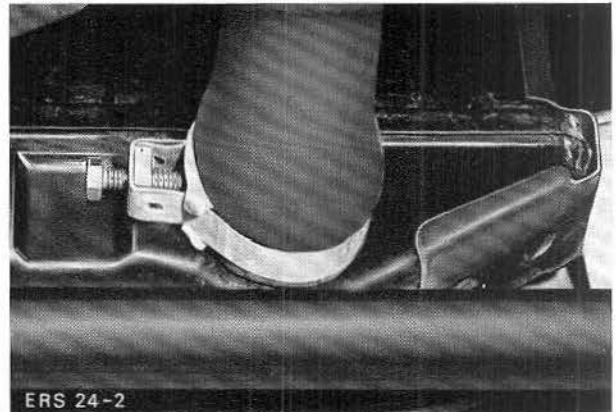

Fig. 64. Disconnect radiator hose from radiator.
1. Disconnect battery earth strap and remove oil sump shield (4 bolts, 4 clips), drain coolant, disconnecting radiator hose from radiator bottom neck and engine water outlet at top, Fig. 64.